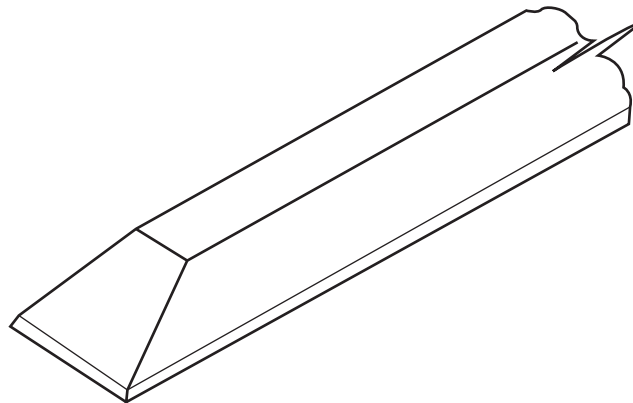

Fig. 5
- (g) Fig. 5 shows the blade of a chisel.